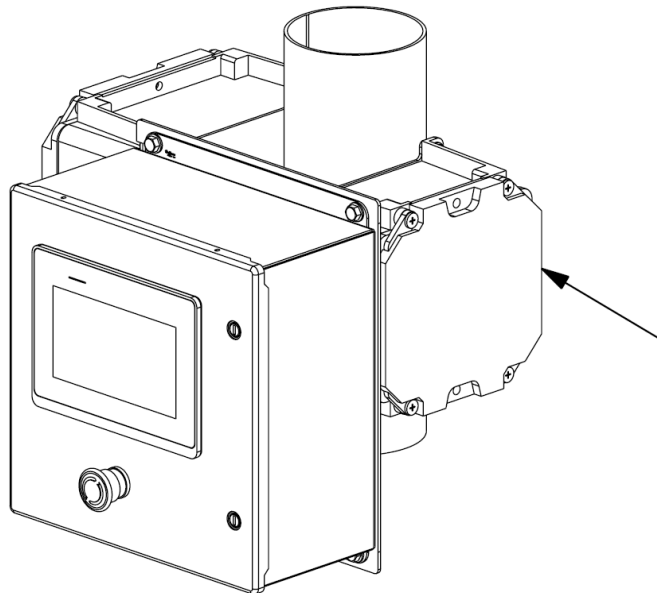
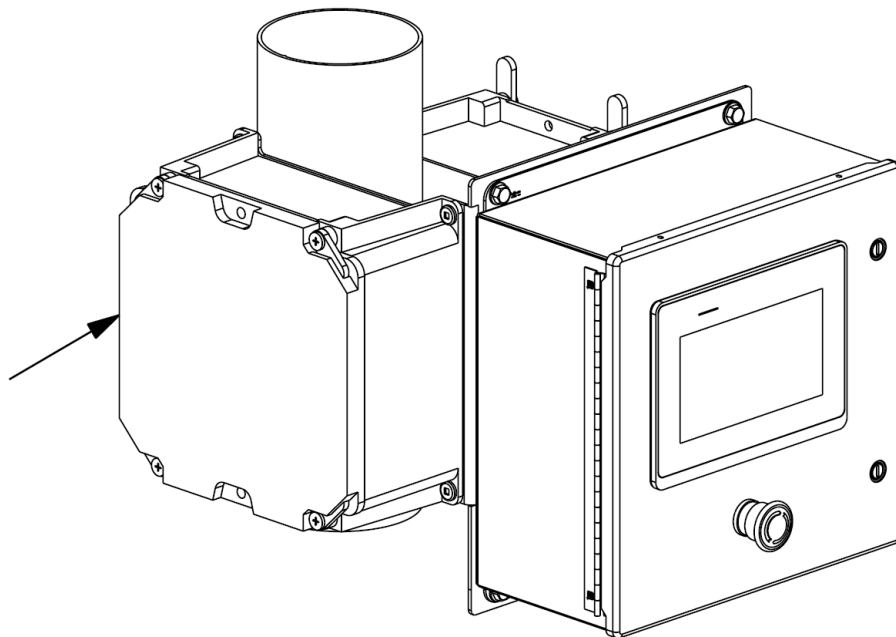

Figure 7-9: Signal conditioner enclosure cover
Figure 7-13: Counterweight enclosure cover
32. Install and secure the counterweight and signal conditioner enclosure covers. Reference **Figure 7-13** and **Figure 7-9**.